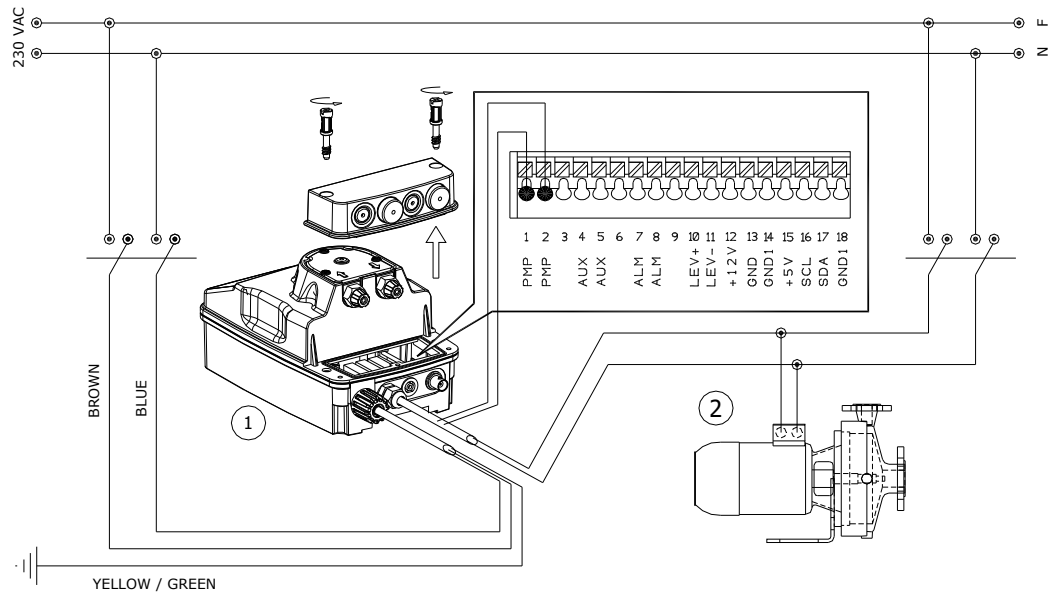
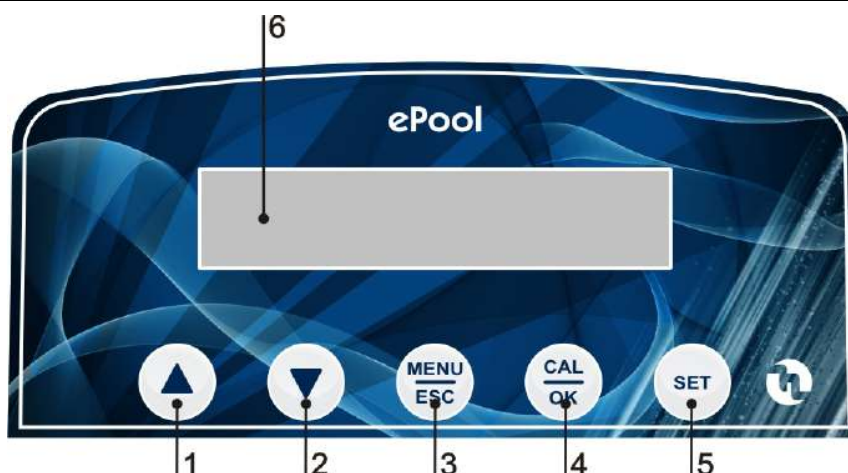
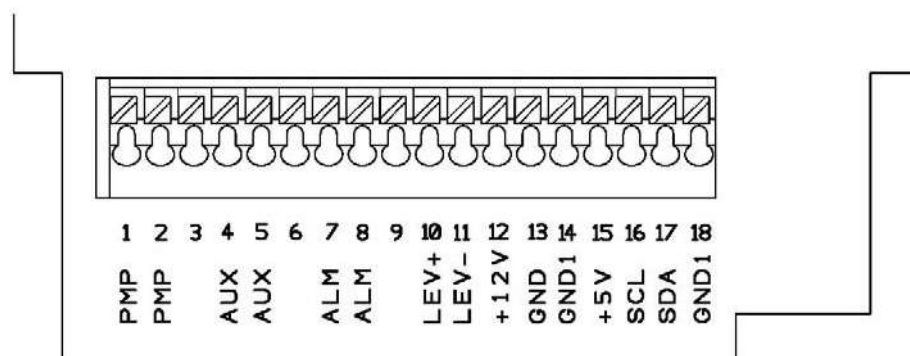

Fig. 2 – Installation and terminals
Fig. 4 – Pannello Comandi
Fig. 5 – Service Connector
Carefully observe the regulations in force in the various countries as regards electrical installations (Fig.2). **When the supply cable is devoid of a plug, the equipment should be connected to the supply mains by means of a single-pole circuit breaker having a minimum distance of 3 mm between the contacts. Before accessing any of the electrical parts, make sure that all the supply circuits are open.**
Slide the hoses over the nipples, pushing them right home and then fix them with appropriate tube nuts (Fig.4). Before attaching the delivery hose to the plant, prime the peristaltic by going through the sequence shown in fig.5. Try to keep both the suction and discharge hose as straight as possible, avoiding all unnecessary bends. Select the most appropriate injection point on a pipe of the plant to be treated and there fit a 3/8" female steel gas thread connector (similar to BSPm). This connector is not supplied with the pump. Screw the injection valve to the gas connector, inserting a gasket tape as Teflon. Then connect the discharge hose to the conical connector on the injection valve and fix it with the supplied tube nut. The injection valve also acts as no return valve by means of a cylinder sleeve.
Press in the same time arrow up (1) and arrow down (2), (fig. 4).
With the pump in stand-by at the same time press MENU/ESC (3) and CAL/OK (4) (FIG.4).
In figure 5 is shown the scheme of the service connector for the connection of the various services. To the service connector is accessed by removing the protective cover as shown in fig. 2.
- **Connectors 1-2 (PMP)**= Connection for the recirculation pump. Input at 230V. (Fig.2).